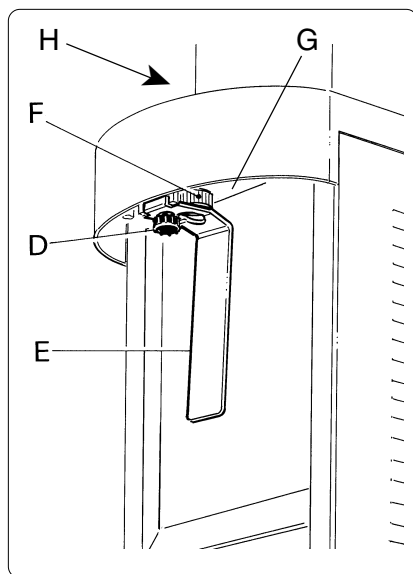
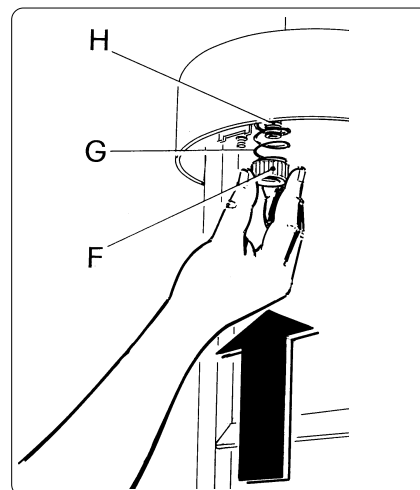

Fig. 5
Fig. 6
- Disassembling the tap (fig. 5): unscrew the knob (D), remove the lever (E), unscrew the toothed washer (F) and the spring (G) then remove the ferrule (H) from the upper part.
- Carefully clean the bowl (A), the mixing blade (C) and all part of the tap using hot water and dishwashing detergent.
- To reassemble the tap, proceed as follows (fig. 6,7 and 8):
- place the ferrule (H) in the upper part;
- in the lower part place the spring (G) and the toothed washer (F) pushing the washer upward while screwing it clockwise.
- To reassemble the mixing blade (C) place it on its rotating shaft, without exerting too much pressure.
- To reassemble the bowl (A), moisten the bowl gasket with water, then press it down on the upper part, using both hands, so that it is completely aligned in place.